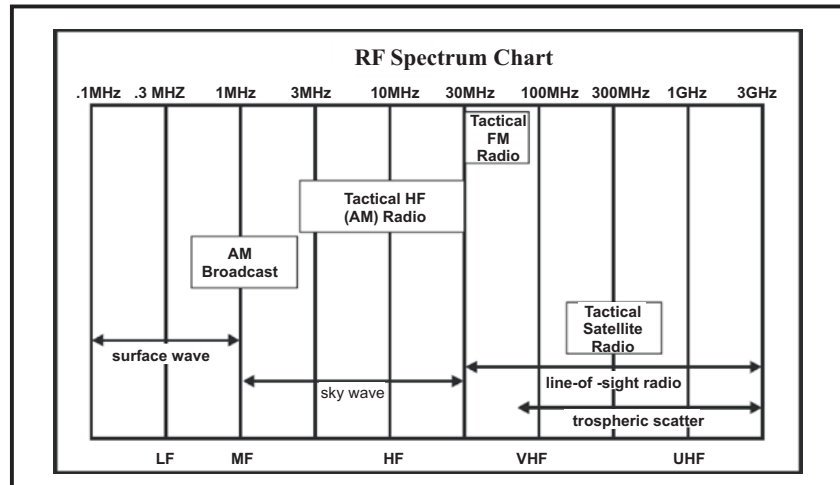

Figure C-1. Radio frequency spectrum chart
The Army uses several types of single-channel (SC) radios that operate in different frequencies across the radio frequency (RF) spectrum as shown in Figure C-1.